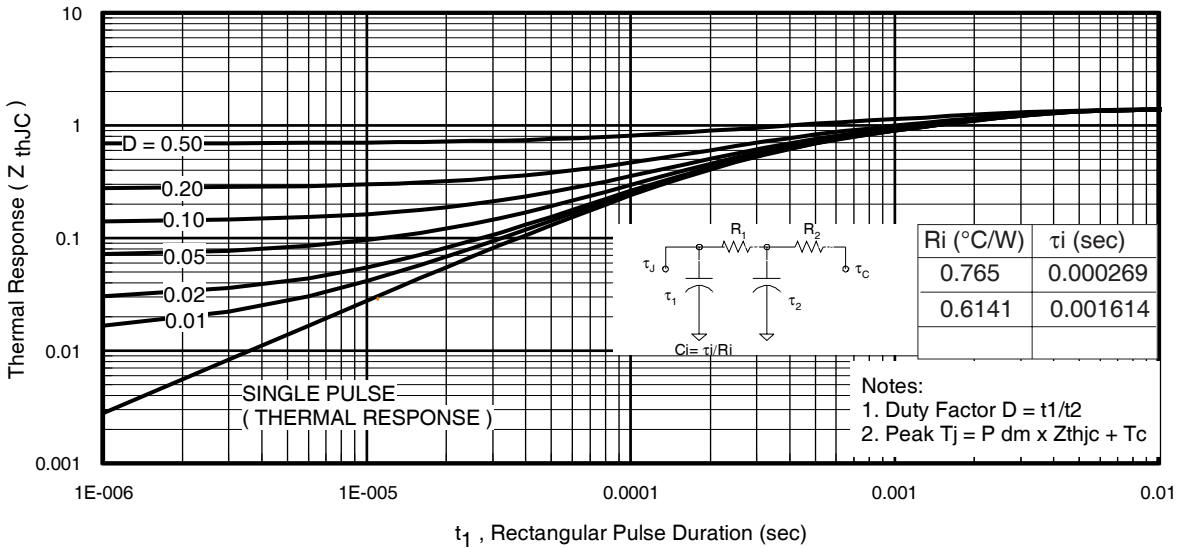
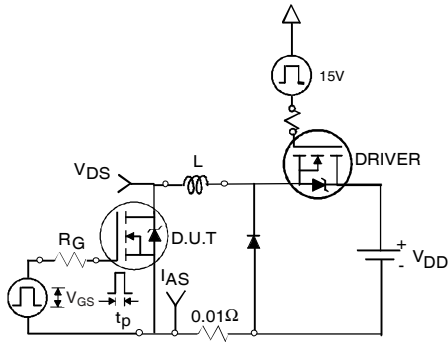

Fig 11. Maximum Effective Transient Thermal Impedance, Junction-to-Case
Fig 12a. Unclamped Inductive Test Circuit
- ① Repetitive rating; pulse width limited by max. junction temperature. (See fig. 11).
- ② Limited by T_{Jmax} , starting $T_J = 25^\circ\text{C}$, $L = 0.089mH$, $R_G = 25\Omega$, $I_{AS} = 36A$, $V_{GS} = 10V$. Part not recommended for use above this value.
- ③ Pulse width $\leq 1.0ms$; duty cycle $\leq 2\%$.
- ④ $C_{oss\ eff.}$ is a fixed capacitance that gives the same charging time as C_{oss} while V_{DS} is rising from 0 to 80% V_{DSS} .
- ⑤ Limited by T_{Jmax} , see Fig.12a, 12b, 15, 16 for typical repetitive avalanche performance.
- ⑥ This value determined from sample failure population, starting $T_J = 25^\circ\text{C}$, $L = 0.089mH$, $R_G = 25\Omega$, $I_{AS} = 36A$, $V_{GS} = 10V$.
- ⑦ When mounted on 1" square PCB (FR-4 or G-10 Material). For recommended footprint and soldering techniques refer to application note #AN-994.
- ⑧ R_G is measured at T_J approximately 90°C .
3. Equation below based on circuit and waveforms shown in Figures 12a, 12b.
$Z_{thJC}(D, t_{av})$ = Transient thermal resistance, see figure 11)